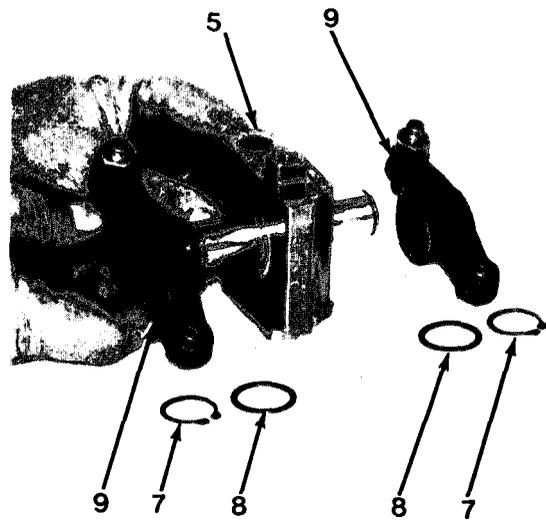

Figure 6-3
2. Lubricate rocker shaft support assemblies (5) with engine oil and install intake and exhaust rocker levers (9), two thrust washers (8) and retaining rings (7, Figure 6-3).